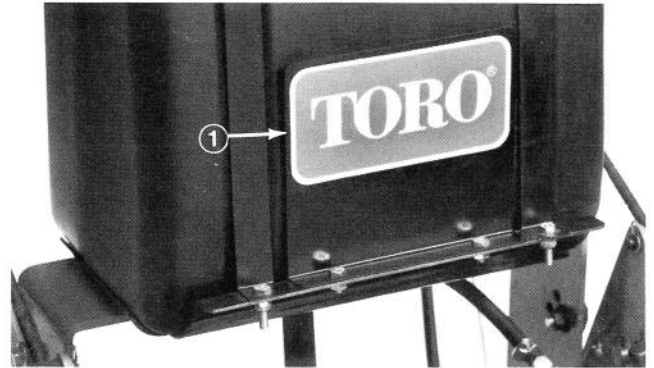

Figure 7
3. Wrap straps over tank and secure to front of mounting plate with (2) 1/4-20 x 5/8" lg. capscrews and locknuts (Fig. 7).
4. Secure fuel tank decal plate to front of mounting plate with (2) 1/4-20 x 5/8" lg. capscrews and locknuts (Fig. 7).